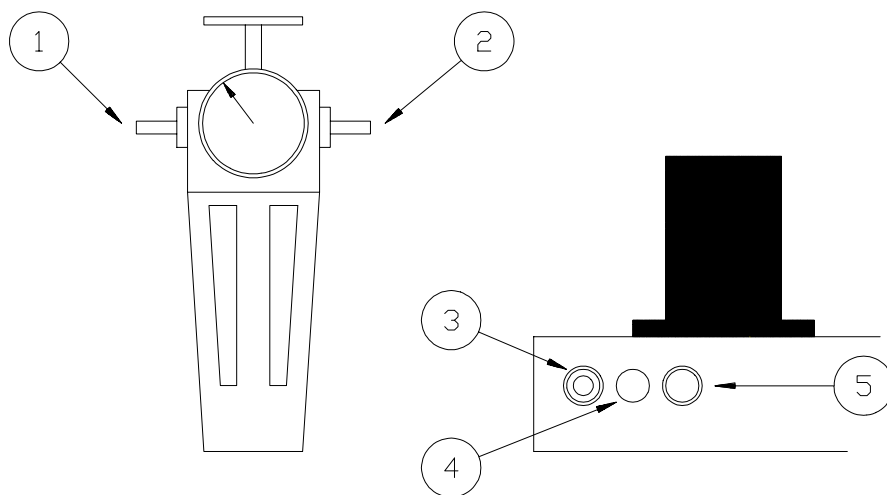

Fig. 3
Compressed air (5 - 7 bar) is connected to the pressure regulator inlet (1) Fig. 3 The outlet (2) is available for the input on FlexFeed 20 (3).
The 12-pin cable marked 4 is connected to FlexFeed 20 Fig.3 (5) and to the control panel (8) FlexFeed.